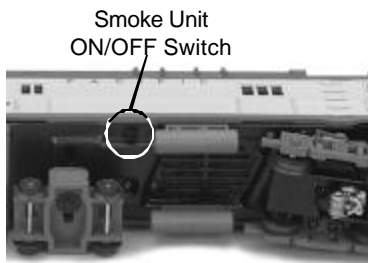

Figure 3. Smoke Unit ON/OFF Switch
3. If you choose not to prime the unit with fluid, turn the smoke unit switch located under the engine to the OFF position (see Fig. 3 on pg. 10). Running the engine without a primed smoke unit may cause damage. See the “ProtoSmoke Unit Operation” section of this book for more information on smoke unit maintenance.
If you choose not to add the fluid (or have already added the fluid but choose to run smoke-free), turn off the smoke unit switch located under the engine (see Fig. 3). Failure either to add fluid to the unit or to turn it off may damage the smoke unit heating element and/or wicking material.